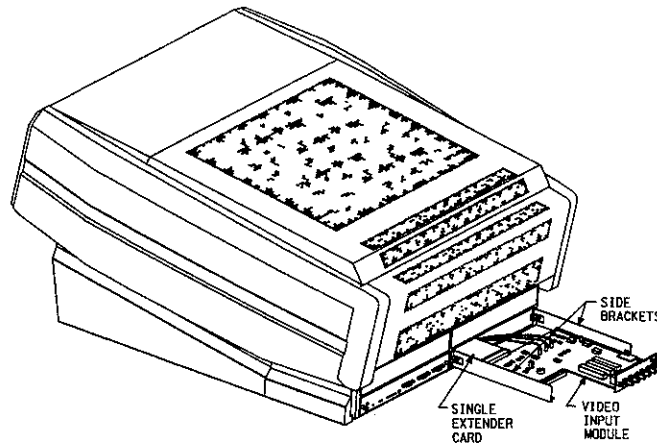

Figure 3-5. Control Module Extension
- d) Install two rear panel side brackets as shown in Figure 3-5.